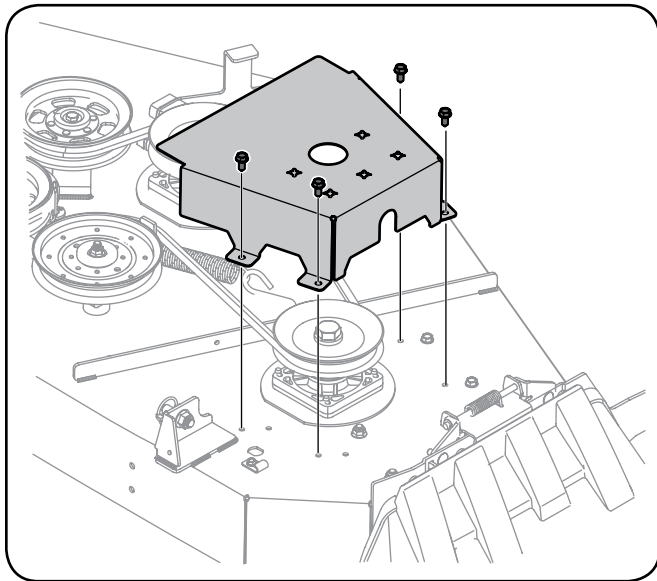

Figure 40
2. Remove the hex washer screws securing the belt covers to the deck. See Figure 40.
5. Install the new belt around the spindle pulleys as shown and reinstall the belt covers. See Figure 40.